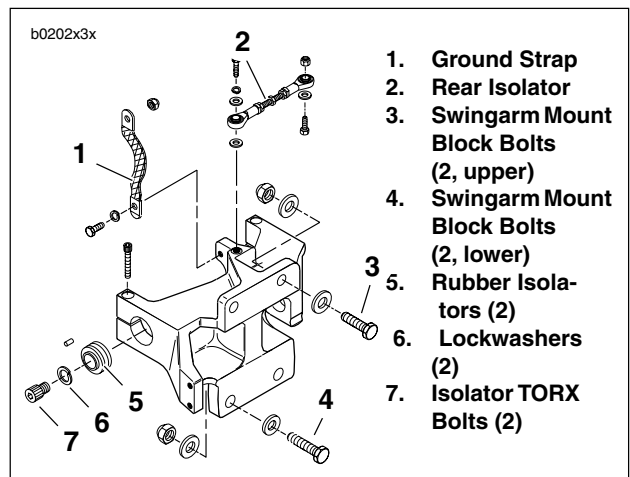
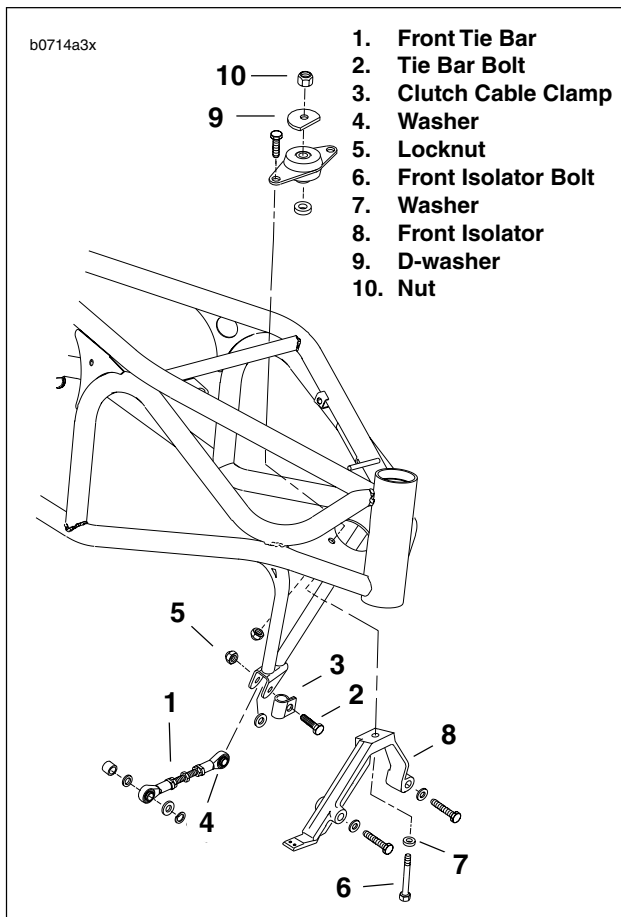

Figure 3-3. Rear Tie Bar Assembly
Figure 3-4. Front Tie Bar Assembly
17. See Figure 3-3. Remove engine ground strap (1) from swingarm mount block.
- b. See Figure 3-4. Detach front tie bar (1) and clutch cable clamp (3). Remove tie bar bolt (2), clutch cable clamp (3), washer (4) and locknut (5).
19. Detach front isolator (8). Remove front isolator bolt (6), nut (10), D-washer (9) and washer (7).
20. See Figure 3-3. Remove isolator bolt (7) and lockwasher (6) on each side.
21. Slowly raise floor hoist until rubber isolators (5) can be removed. Frame will rise while engine remains secured to lift by crating strap.
2. See Figure 3-3. If removed, attach swingarm mount block to engine. Install upper bolts (3), washers and locknuts finger tight. Install lower bolts (4), washers and locknuts finger tight. Tighten upper bolts to 41-45 ft-lbs (56-61 Nm) and lower bolts to 68-75 ft-lbs (92-102 Nm).
6. See Figure 3-4. Attach front isolator (8). Install front isolator mount with bolt (6), washers (7), D-washer (9) and locknut (10). Flat on D-washer faces steering neck (forward). Tighten bolt finger tight.
8. See Figure 3-3. Rear tie bar must be horizontal and below frame tab. Insert bolt upwards through washer, tie bar and frame. Fasten with nut. Tighten bolt to 30-33 ft-lbs (41-45 Nm).
9. See Figure 3-4. Place clutch cable clamp (3) on front tie bar bolt (2). Clamp should hold cable on primary cover side of motor. Insert bolt from front through frame and install washer (4). Continue through tie bar (1) and frame. Install locknut (5) and tighten to 30-33 ft-lbs (41-45 Nm).
10. See Figure 3-3. Tighten the two rear isolator bolts (7) to 63-70 ft-lbs (85-95 Nm). Make sure isolator does not twist during tightening. See 2.20 REAR ISOLATORS.
11. See Figure 3-4. Tighten front isolator bolt (6) to 100-110 ft-lbs (136-149 Nm).